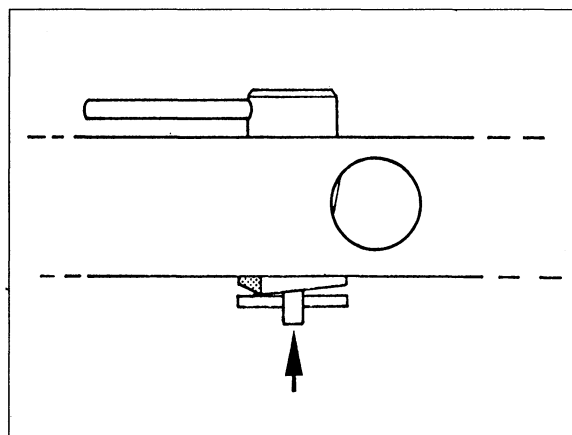

Fig. 2 Quick-fastening clamp on the stand base
Together with two 50 cm stand rods and one 25 cm stand rod, two stand bases (1) are the most important components in the various stand set-ups required for experiments covering mechanics and heat. A stand rod can be clamped firmly in the central socket (2) using a screw (3). Two horizontal sockets (4) and (5) also accept stand rods, meaning that it is easy to create a stable base. Socket (4) has a quick-fastening clamp (6) with a toggle (fig. 2). The five other sockets (7) are used for holding or mounting various items of apparatus with the aid of 4 mm plug pins.